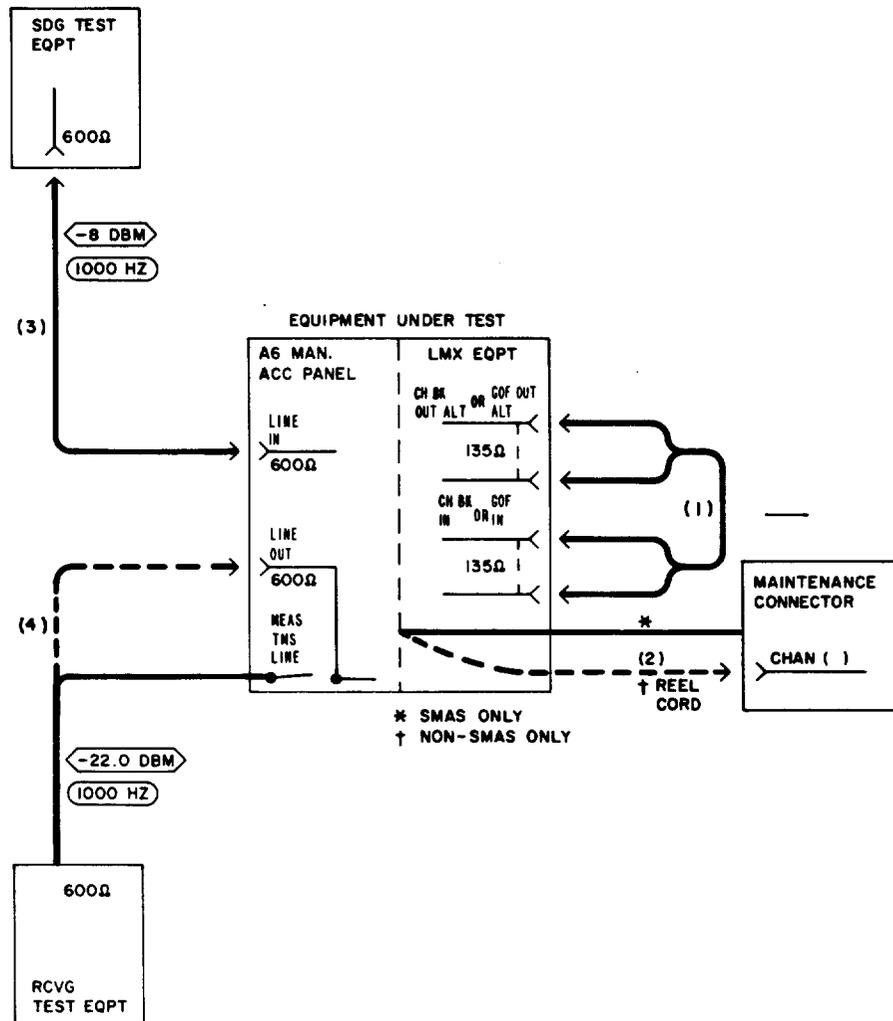

Fig. 19—Patching Diagram—Preparation—Unequal-Level Looping
3	At the LMX equipment, connect the CH BK OUT ALT (LMX-2) or GDF OUT ALT (LMX-3) jack to the CH BK IN (LMX-2) or GDF IN (LMX-3) jack [patch (1), Fig. 19].
5b†	Connect the retractable cord (on the 22AU MAP) to the CHAN BANK connector (on the maintenance connector) for Channel 1 [patch (2), Fig. 19].
7	Connect the STE to the LINE IN jack [patch (3), Fig. 19].
8	Momentarily operate the MEAS TMS LINE/DROP switch to the LINE position. Note: If the T&NMS is not available via the MEAS TMS LINE switch, connect the RTE to the LINE OUT jack [patch (4), Fig. 19].
10*	Remove patch (3), Fig. 19 [and patch (4), if used].
11†	Remove the retractable cord (on the 22AU MAP) from the channel under test [patch (2), Fig. 19].